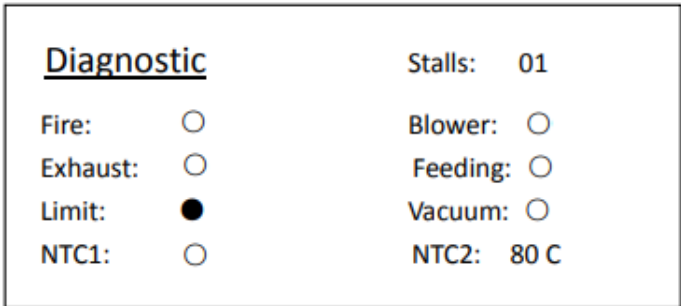

Figure 28: Diagnostics Menu
- 2. Using the "Scroll Down" key, move to option 6 "Diagnostics". Press "Enter" to access the "Diagnostics Screen" *See Figure 28*